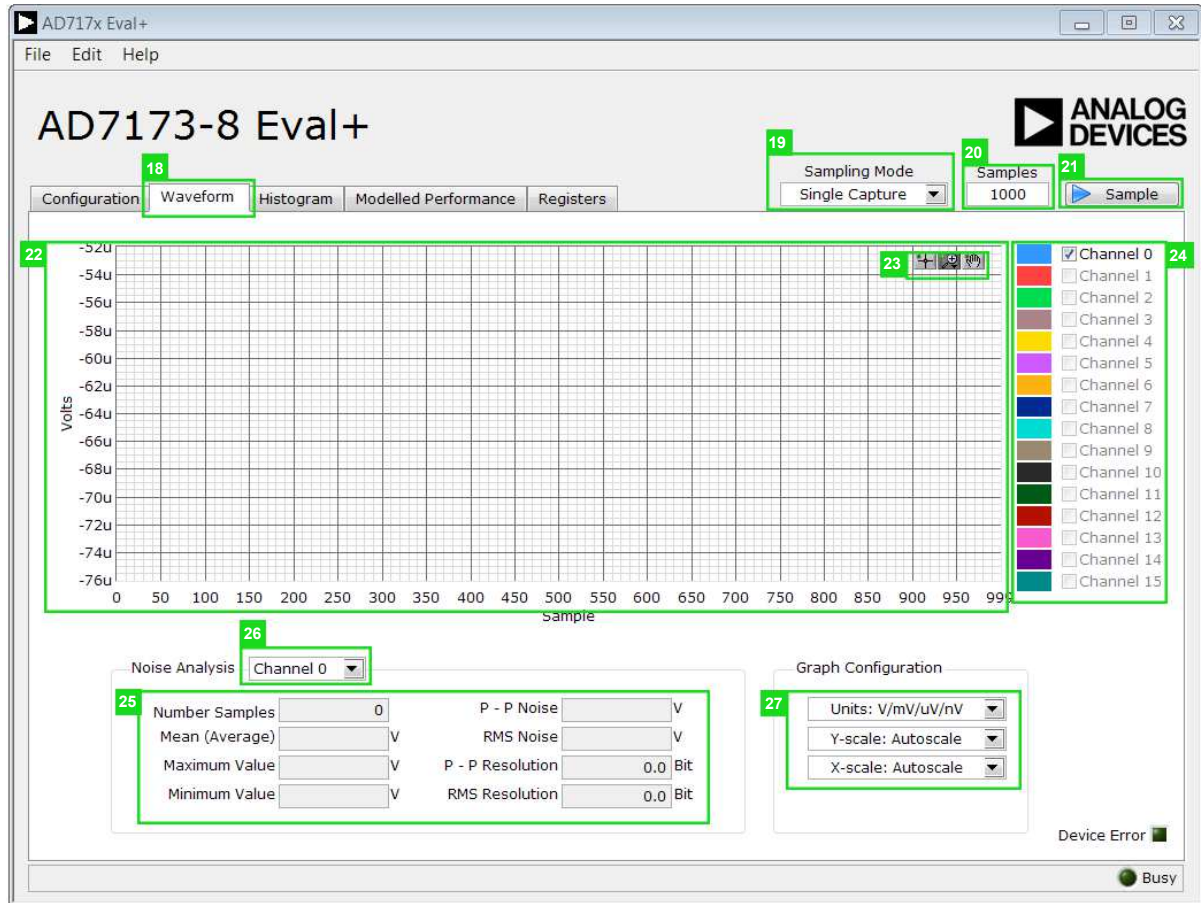

Figure 18. **Waveform** Tab of the AD7173-8 Evaluation Software
Figure 18 shows the **Waveform** tab of the AD717x Eval+ software.
Click the **Sample** button to start gathering ADC results. Results appear in the waveform graph (22). See Figure 18.
The data waveform graph shows each successive sample of the ADC output. Zoom in on the data using the control toolbar (labeled 23 in Figure 18). Click the x-axis and y-axis to change the scales on the graph.